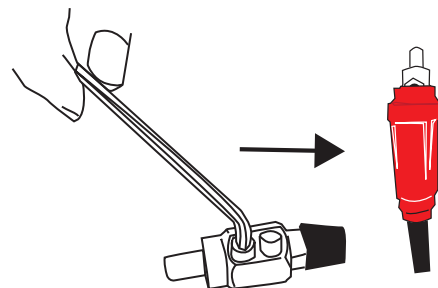

FIGURE 5
4.2.5 Slide up the rubber guard to snugly cover up the plug. **FIGURE 5.**